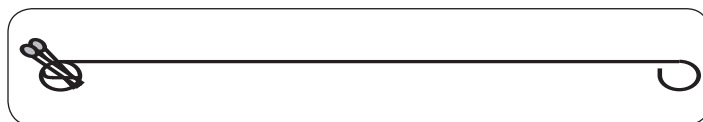
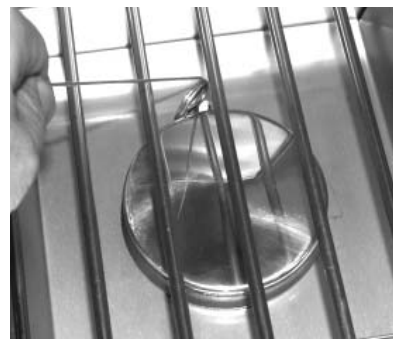

Fig. 15-2 - Match holder
Fig. 15-3 - Manual lighting
2. Insert either a burning long-barrel butane lighter, a burning long-stem match, or a burning match held by a wire extension holder (Fig. 15-2) through the cooking grids to the burner (Fig. 15-3). Hold the flame against the edge of the burner.
REMEMBER: FOR SAFE MANUAL LIGHTING, PLACE A BURNING MATCH OR BUTANE LIGHTER BESIDE THE BURNER - **THEN TURN ON THE GAS** (see Fig. 15-3).